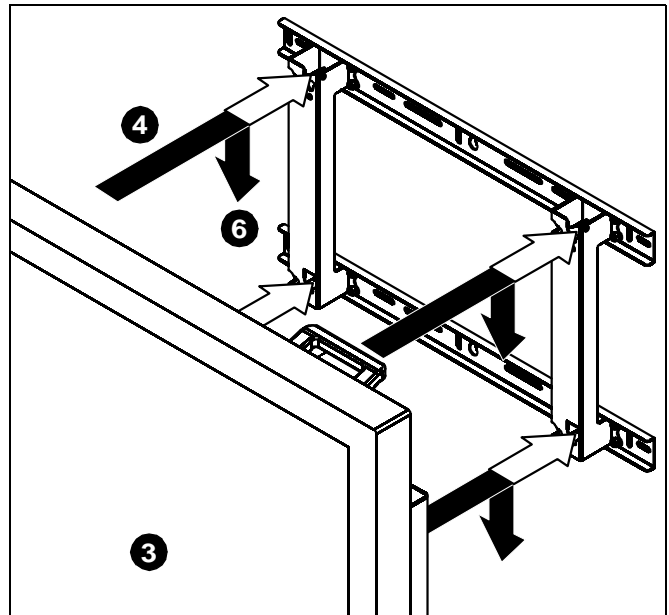

Figure 11
4. Align mounting buttons on display with four teardrop mounting holes in mount. (See Figure 11)
5. Move display forward until recessed area of mounting buttons is positioned over lower area of teardrop mounting holes. (See Figure 11)
6. Lower display until recessed area of mounting buttons is seated in lower area of teardrop mounting holes. (See Figure 11)